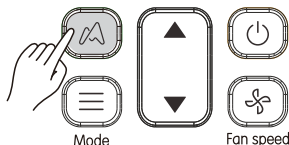

Figure 3.15
1) Press  (see Figure 3.15) to send the Midea ETA function signal to the indoor unit. The  icon is displayed;